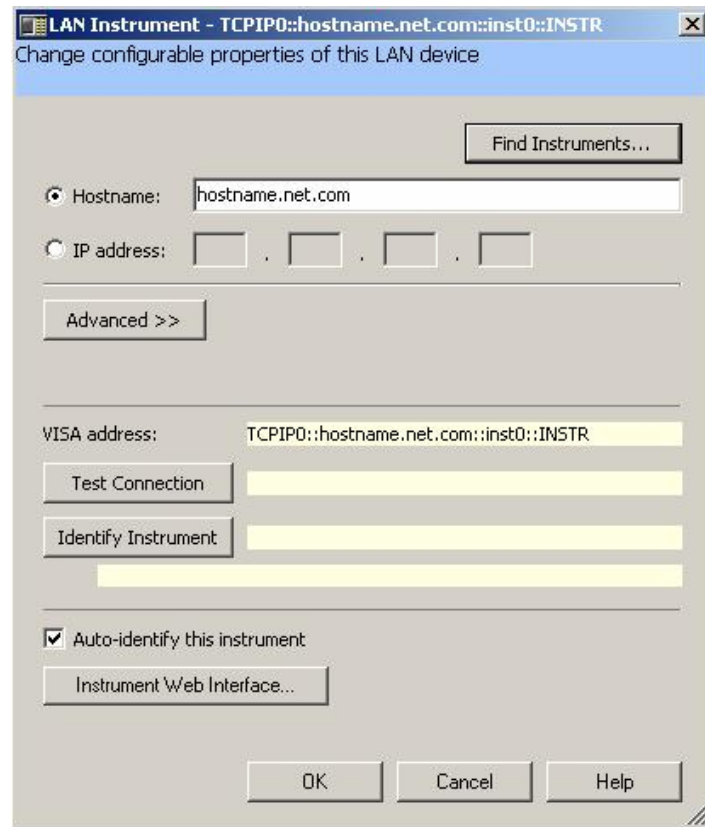

FIGURE 2-3: LAN INSTRUMENT DIALOG BOX
- 5) Next, click on the **Find Instruments...** button (see Figure 2-3).